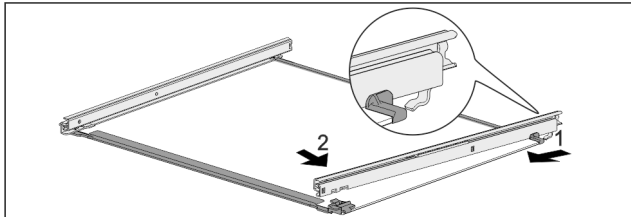

Fig. 121 Glass shelf with rails
- ▶ Hook in rail at the back. Fig. 121 (1)
- ▶ Hook in rail at the front. Fig. 121 (2)